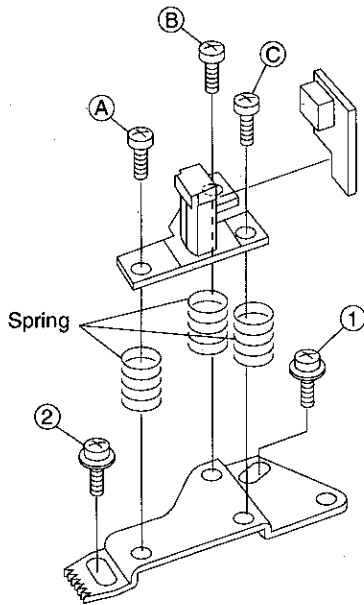

Figure 4-23.
- b) Move the A/C head arm with an adjusting gear driver, and adjust the A/C head position for maximum head switching pulse hi side envelope. Finally tighten the screws ① and ②. (First tighten the screw ①, and next the screw ②.) (Figure 4-23①②)